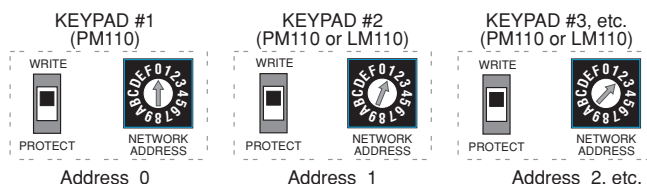

Fig. 21
2. If you have not already done so, set each SmartPad₃ to a **unique NETWORK ADDRESS** such as 0, 1, 2, 3, etc. (**Fig. 21**).